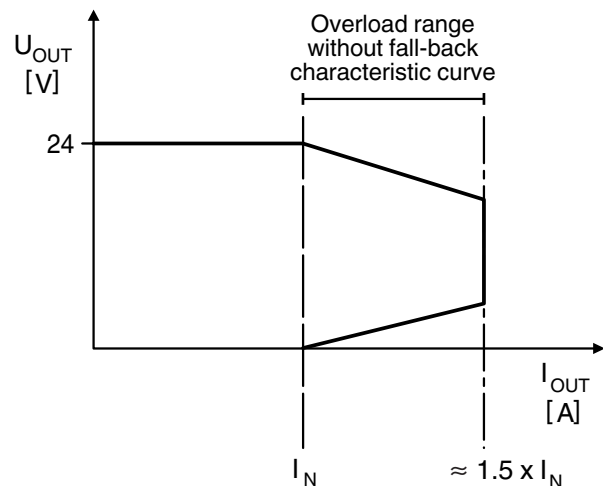

Figure 5-2 Overload range **without** fall-back characteristic curve
**A power supply without a fall-back characteristic curve must be used for the correct operation of the controller (see Figure 5-2).**